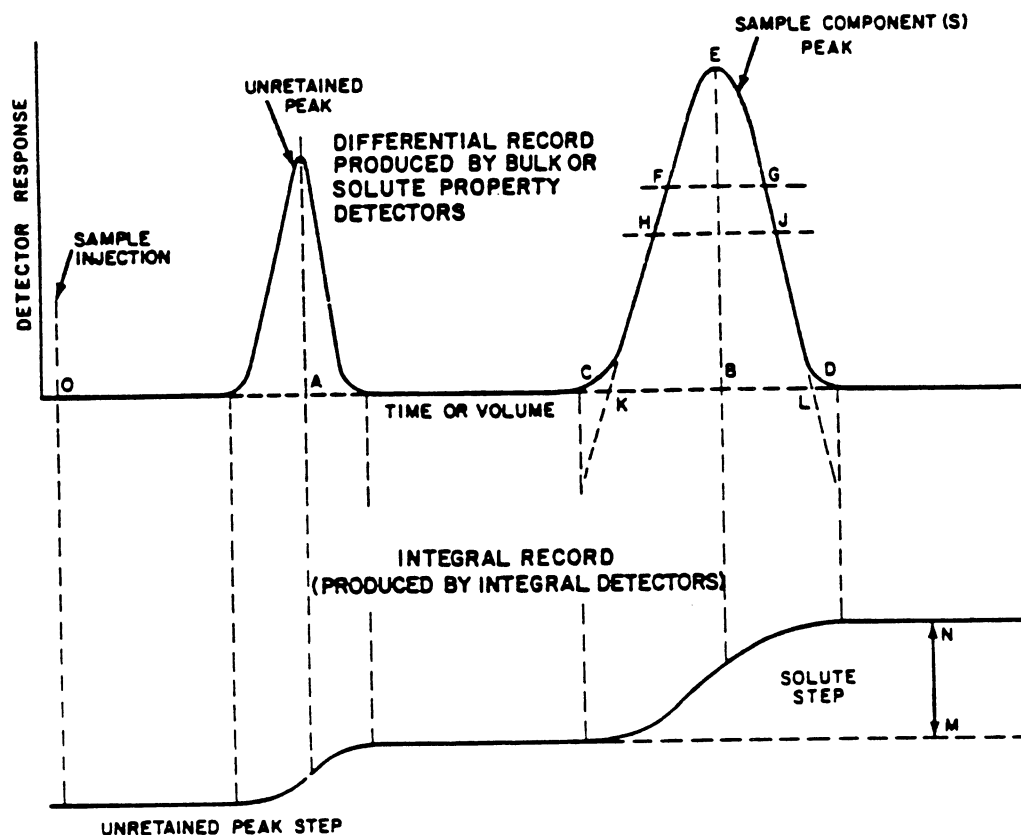

FIG. 1 Typical Chromatogram.
5.3.2 The *Step Height*, *NM* in Fig. 1, is the distance, measured in the direction of detector response, between straight-line extensions of the baselines on both sides of a step.
6.2 Figure 1 can be used to illustrate some of the most common parameters measured from chromatograms obtained with differential detectors: